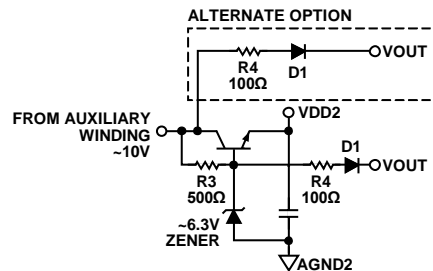

Figure 19. Recommended Circuit to Guarantee Hiccup Mode
- When VDD2 is powered through auxiliary winding or another configuration, when a short circuit occurs on the output terminals, the auxiliary winding is not shorted and maintains a positive voltage above the VDD2 UVLO threshold. To enter hiccup mode, the following circuit is recommended, as shown in Figure 19. The circuit operates as follows: when the output voltage goes low due to a short circuit, the D1 diode turns on, which pulls the base of the bipolar junction transistor (BJT) low, shutting off VDD2. The system then enters hiccup mode, as described in the Remote System Reset section.